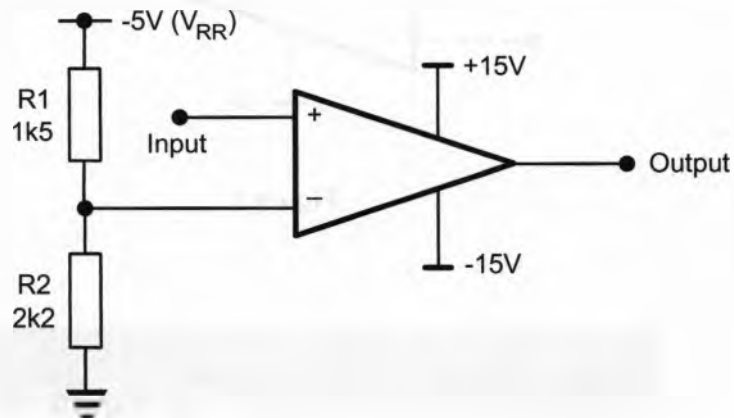

Figure 2
11. For the circuit of Figure 2, indicate on the table below whether the output voltage is +15V or -15V given the input voltages specified.